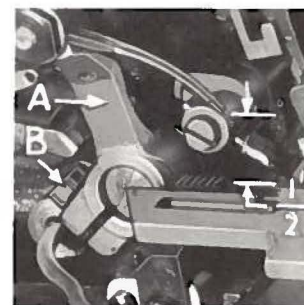

Fig. 3
With throat plate assembled in position, needles should center in the front end of needle slot. When needles are at high position, the needle points should be set 1/2 inch above the throat plate (Fig. 3). To align needles or set the height above the throat plate, move needle driving arm (A, Fig. 3) by loosening clamp screw (B). After needles have been set properly tighten screw (B) and remove throat plate.